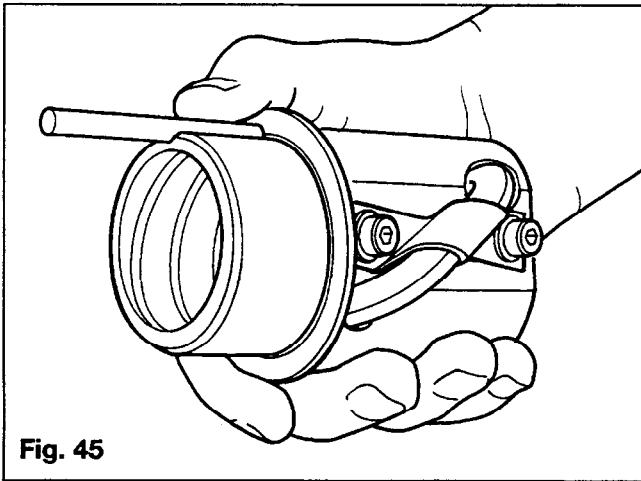

Fig. 45
3. **Installing New Ball Screw Nut** - To install the ball screw nut, position the washer over the small diameter of the nut. Place pin in position. Align pin with groove in reel and press in the nut. Refer to Figure 45 and 46.